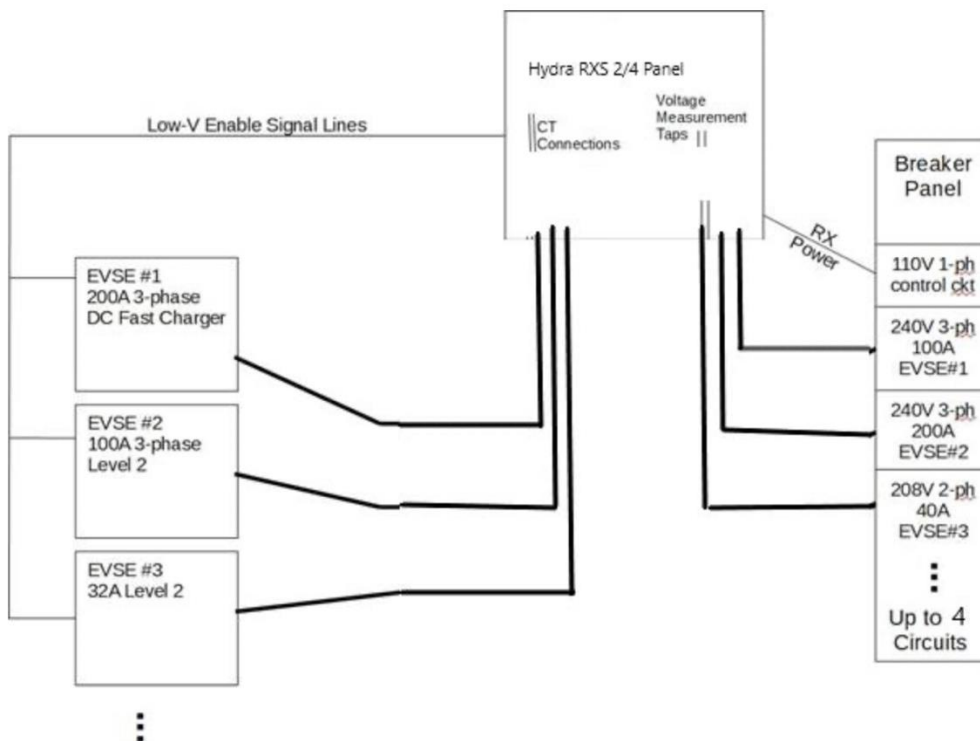

Figure 1: Hydra RXS 2/4 panel
The HYDRA Control Unit (HCU) measures 36-inches, by 30-inches, by 8 ¾-inches (Figure 1, following page) and weighs approximately 100 lbs with all ten (10) RMMs installed.